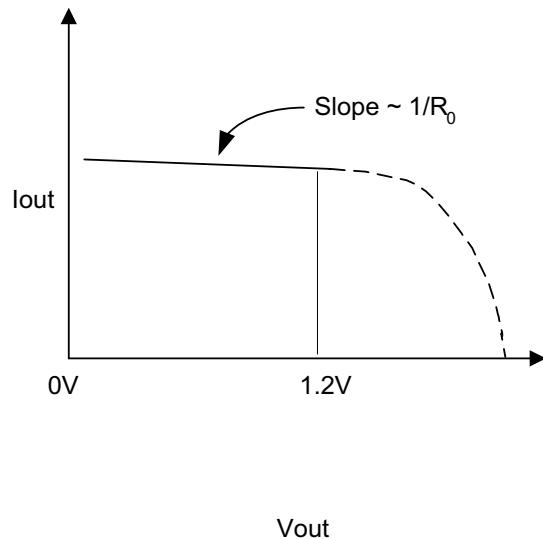

Figure 14. Buffer Characteristics
1. Output impedance of the current mode buffer circuit –  $R_o$  (see Figure 14).
2. Minimum and maximum required voltage operation range of the circuit –  $V_{op}$  (see Figure 14).
3. Series resistance in the buffer circuit –  $R_{os}$  (see Figure 14).